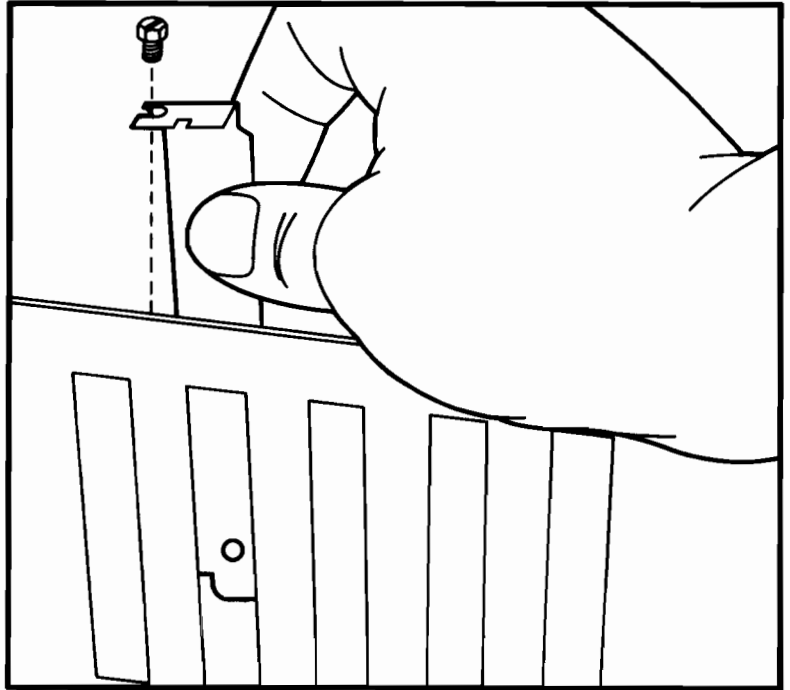

Figure B-3. Removing the Slot Cover Plate
5. Remove the cover plate of the slot by removing its mounting screw and lifting it from its location (see Figure B-3).